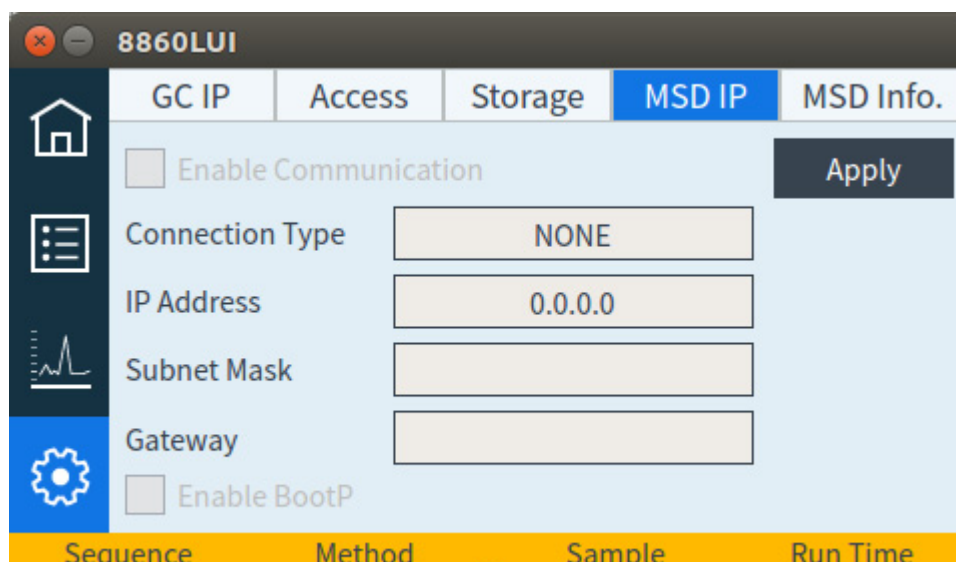

Figure 14. Detector MSD settings page
- 1 From the touchscreen, select the settings page, and then the MSD config tab. See **Figure 14**.